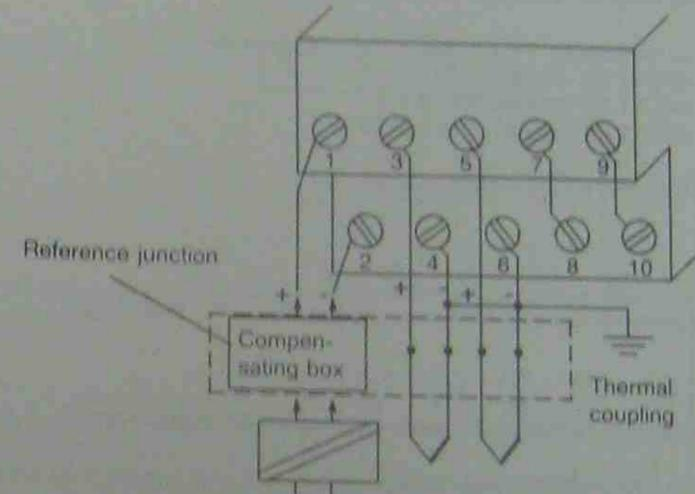

Figure 12-2. Voltage Measuring with Isolated Thermocouples (6ES5 464-8MA11/8MA21)
Module 464-8MA11/8MA21 is recommended for voltage measurement with thermocouples. With floating sensors (e. g., isolated thermocouples), the permissible potential difference  $V_{CM}$  between the minus terminals of the inputs and the potential of the standard mounting rail must not be exceeded. To avoid this, the negative potential of the sensor must be connected to the central ground point (see Figure 12-2). Jumper terminals 1 and 2 together if you do not use compensation boxes.
**Temperature compensation:** For the thermocouples of type J, K, and L, you can compensate, on the one hand, the temperature of the reference point using a compensating box. (See Figure 12-2.)